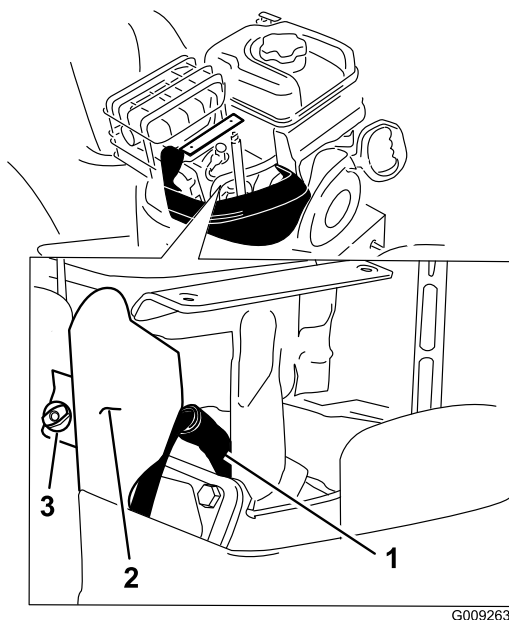

Figure 45
4. Remove the bracket thumb screw and the bracket (Figure 45).
5. Clean around the base of the spark plug (Figure 45).